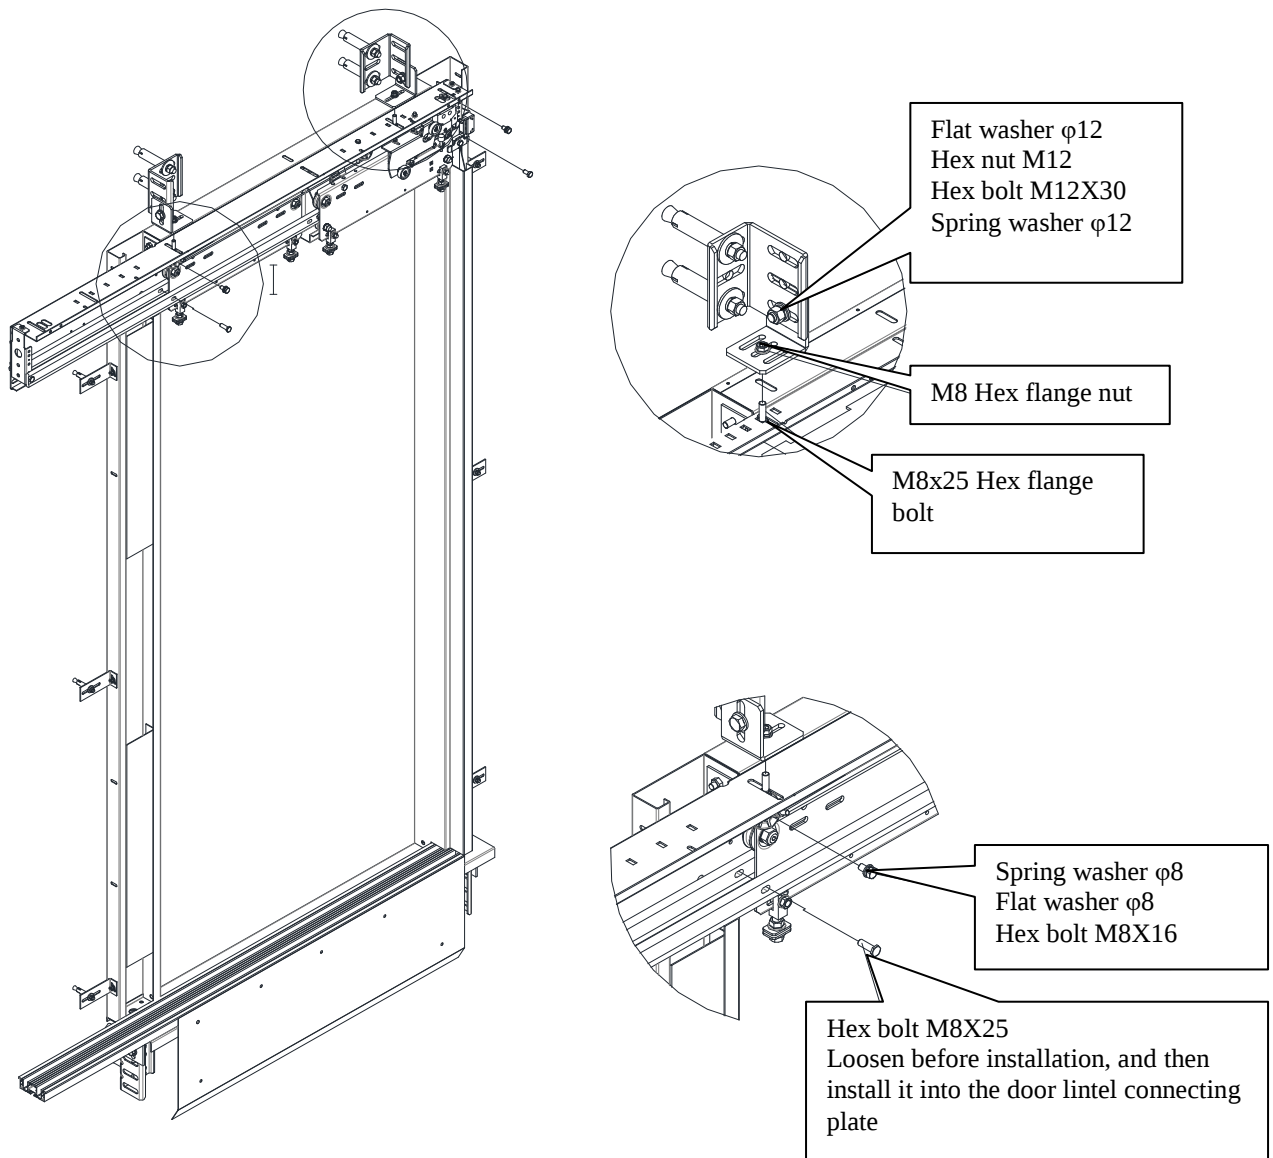

Figure 5-4-1
- 1) Preparation of the connection between the landing mechanism and the frame: before installing the landing mechanism, connect the fixed hanger and the pallet to the door lintel, do not press it, maintain a gap of 1 ~ 3mm, and then tighten it after the landing mechanism is hung, use expansion bolts M12X100 and wall fixed part to fix the two ends of the landing mechanism to the shaft wall, refer to Figure 5-4-1, and insert the release stem into the triangle lock.